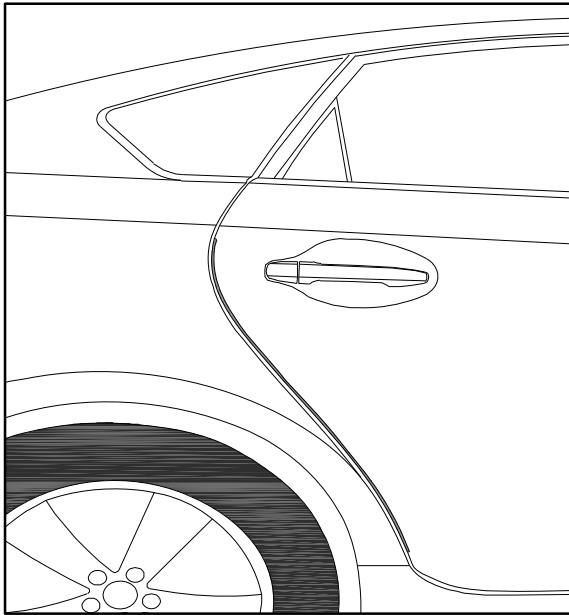

Fig. 1-9
- (h) Carefully close rear door and visually ensure DEG has sufficient clearance from adjoining body panels. Carefully remove template from door and retain for use on driver side. (Fig. 1-9)